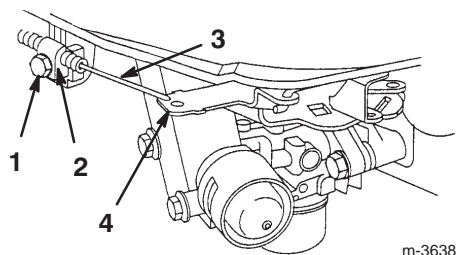

Figure 10
6. Connect the new throttle cable to the throttle arm on the engine (Fig. 10).
9. Install the new cable clamp and the cable clamp screw to the engine (Fig. 10). Tighten the cable clamp screw to lock the throttle cable in place.